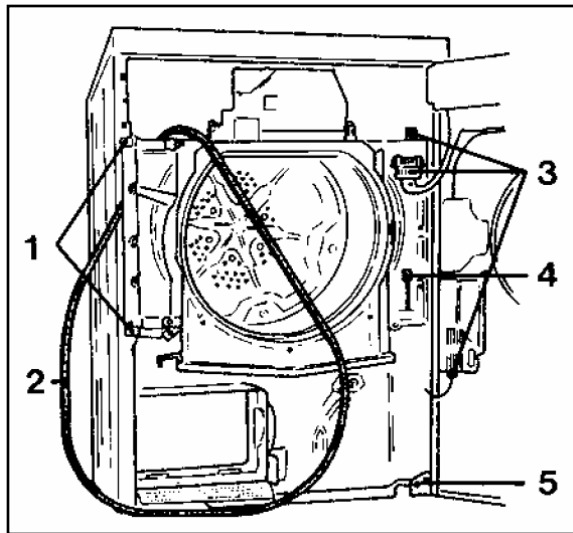

Figure 5-22: Drum Drive Belt Replacement 2
7. Remove the screws (refer to Figure 5-22 – Drum Drive Belt Replacement 2, Item 1) and ease open the bearing ring panel.
8. Slide the new belt through the gap between the bearing ring panel and the appliance casing (refer to Figure 5-22, Item 2). Refit the bearing ring panel and screw it tightly into place.
9. Where fitted, disconnect the electrical connection plugs (refer to Figure 5-22, Item 3).
11. Disconnect the earthing wire (refer to Figure 5-22, Item 4).
12. Unscrew the lower hinge (refer to Figure 5-22, Item 5) and remove the front panel.
6. Unscrew the bearing ring (refer to Figure 5-22 – Drum Drive Belt Replacement 2, Items 1 and 2) and remove it.